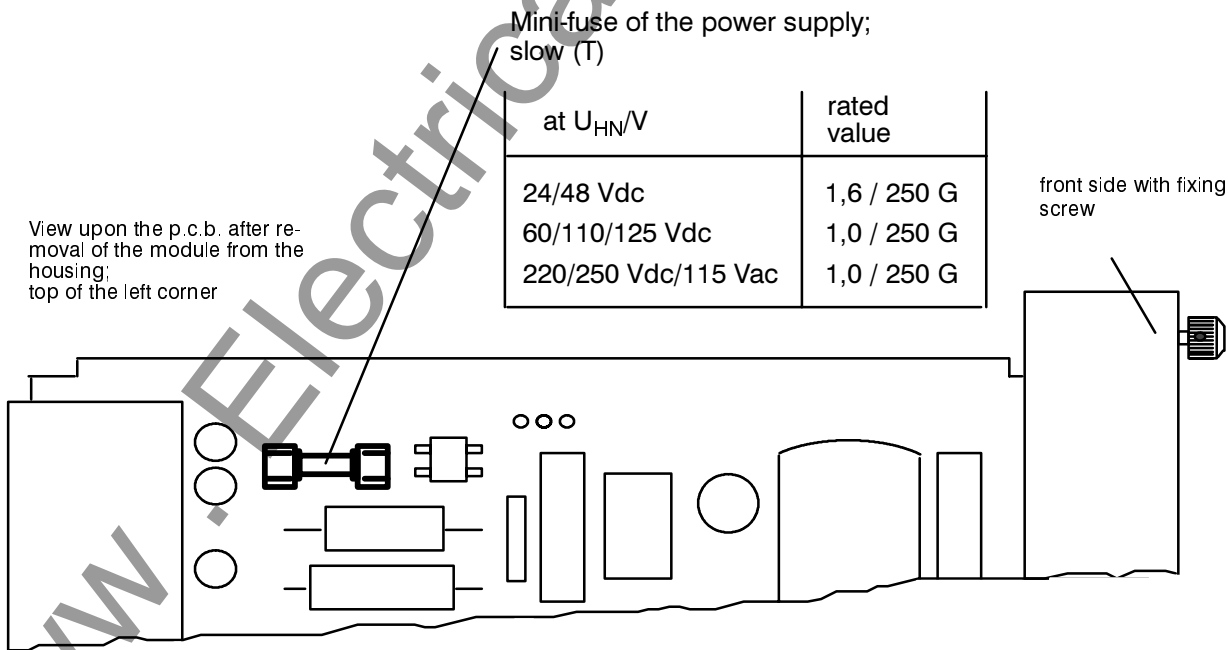

Figure 7.1 Mini-fuse of the power supply
- Has the mini-fuse in the power supply section blown (see Figure 7.1)? If appropriate, replace the fuse according to Section 7.2.1.
- Select a replacement fuse 5 × 20 mm. Ensure that the rated value, time lag (slow) and code letters are correct. (Figure 7.1).
- Remove blown fuse from the holder (Figure 7.1).
- Fit new fuse into the holder (Figure 7.1).